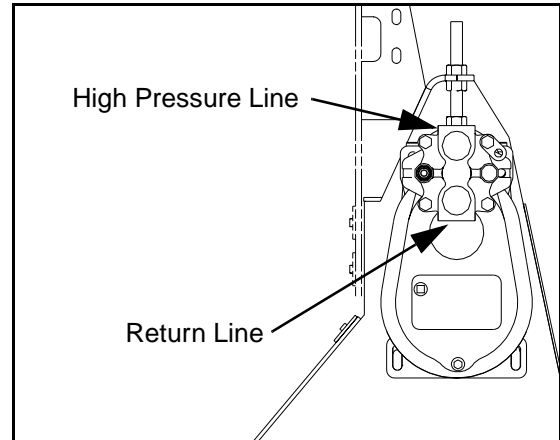

Figure 5 - 13 Spreading Auger Hydraulic Motor
- 2) Install a low pressure line (500 psi min.) connecting port "M4" and port "M5". (Figure 5 - 11) and (Figure 5 - 12) This removes the effects of any control pressure on the servo piston.